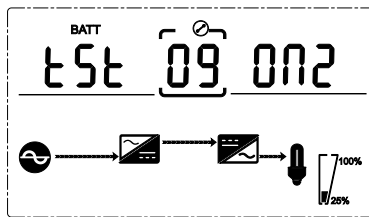

Fig. 4-22 Autotest ON2
- When choosing **ON2**, UPS can transfer to Battery Mode automatically per 30 days. And the Battery Self-test time is **10 minutes** (Fig. 4-22).